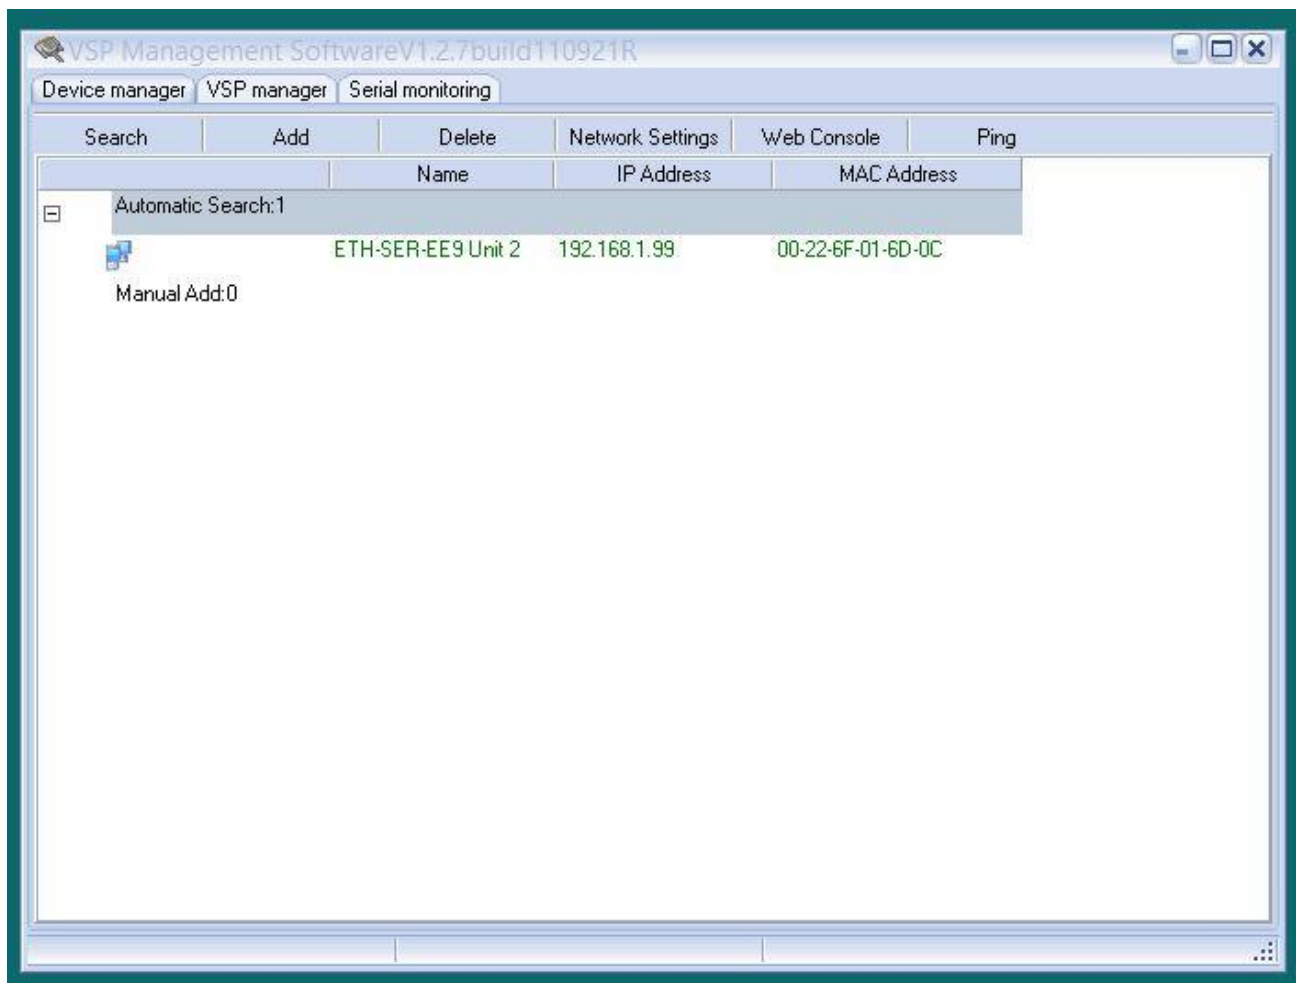

FIGURE 4.45 – SEARCH ETH-SER-EE9 DEVICE
- 4) Search for the attached ETH-SER-EE9 device. Our name is ETH-SER-EE9 Unit 2, IP 192.168.1.99 MAC 00-22-6F-01-6D-0C. (SEE FIGURE 4.45)